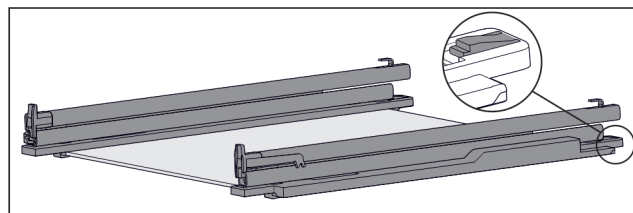

Fig. 154 Glass shelf with rails and retaining parts
- Press down retaining part at the rear (see Fig. 154) and at the same time push the rail back.